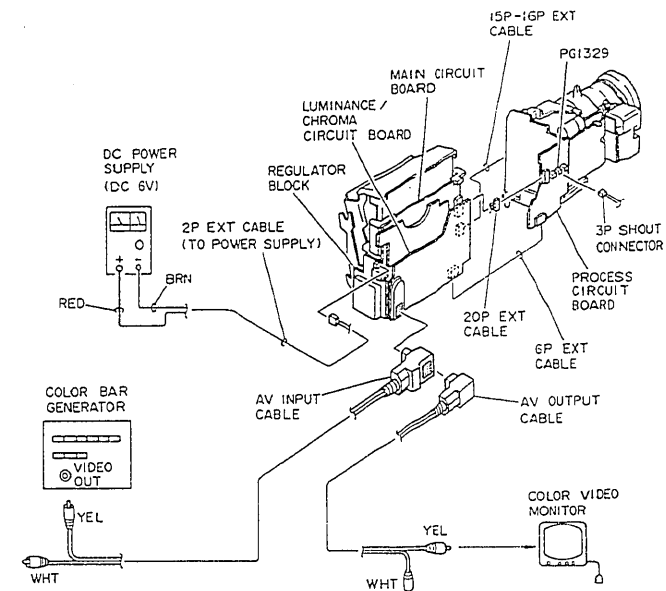

Fig. 4-1
Remove the components, etc. listed below first, referring to CHAPTER 2 DISASSEMBLY. (See Fig. 4-1)
- 2) Connect this unit, a power supply and a color video monitor as shown in Fig. 4-1.